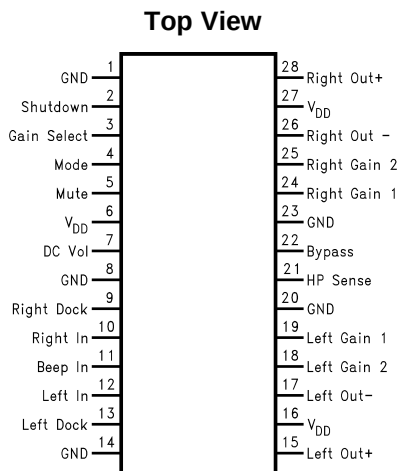

**Figure 1. LM4838 Block Diagram**
- (1) All voltages are measured with respect to the ground pins, unless otherwise specified. All specifications are tested using the typical application as shown in Figure 1.
- (2) *Absolute Maximum Ratings* indicate limits beyond which damage to the device may occur. *Operating Ratings* indicate conditions for which the device is functional, but do not ensure specific performance limits. *Electrical Characteristics* state DC and AC electrical specifications under particular test conditions which ensure specific performance limits. This assumes that the device is within the Operating Ratings. Specifications are not ensured for parameters where no limit is given, however, the typical value is a good indication of device performance.
- (3) Typicals are measured at  $25^\circ C$  and represent the parametric norm.
- (4) Limits are specified to TI's AOQL (Average Outgoing Quality Level). Datasheet min/max specification limits are ensured by design, test, or statistical analysis.